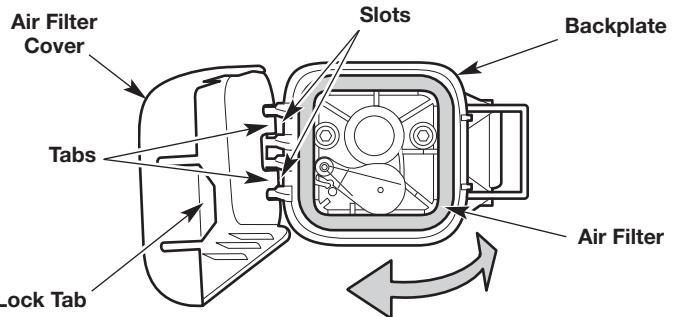

Fig. 16
- Open the air filter cover: press in the lock tab and swing the air filter cover to the left (Fig. 16).
- Remove the air filter (Fig. 16).
- Reinstall the air filter (Fig. 16).
- Close the air filter cover: insert the tabs on the air filter cover into the slots on the backplate. Swing the air filter cover to the right and press it closed until the lock tab snaps into place (Fig. 16).